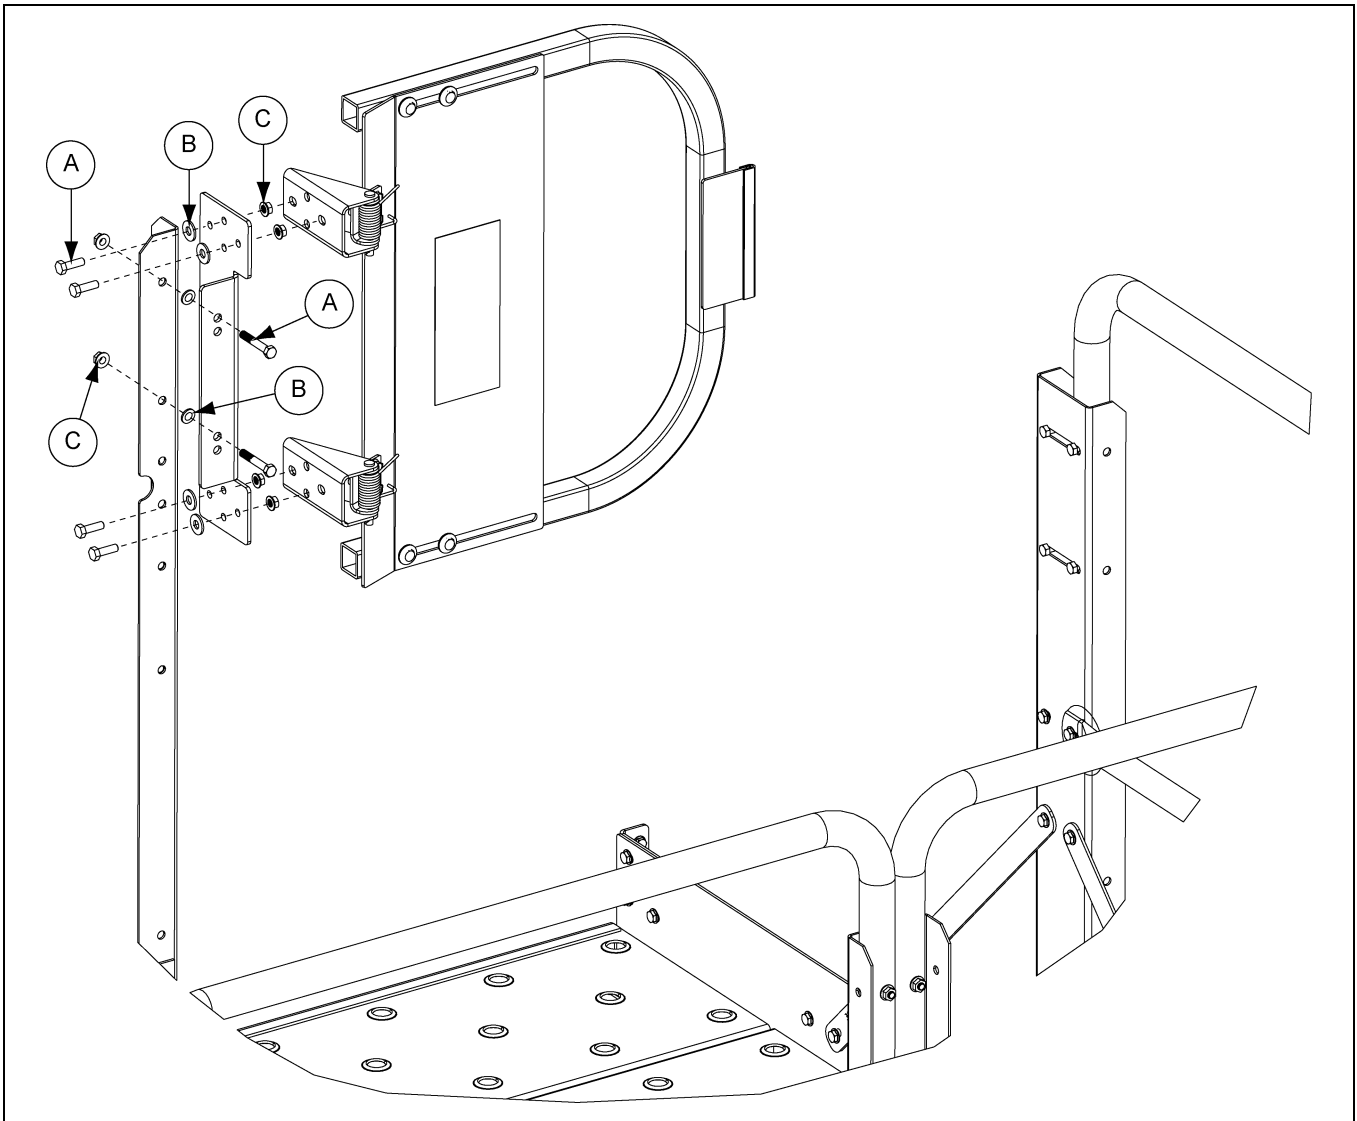

Figure 10P
Attach intermediate platform door bracket to two (2) safety gate side posts (HP1648HP) using 5/16" bolt (S-1196), 5/16" flat washer (S-845) and 5/16" flange nut (S-10268). (See Figure 10P.)